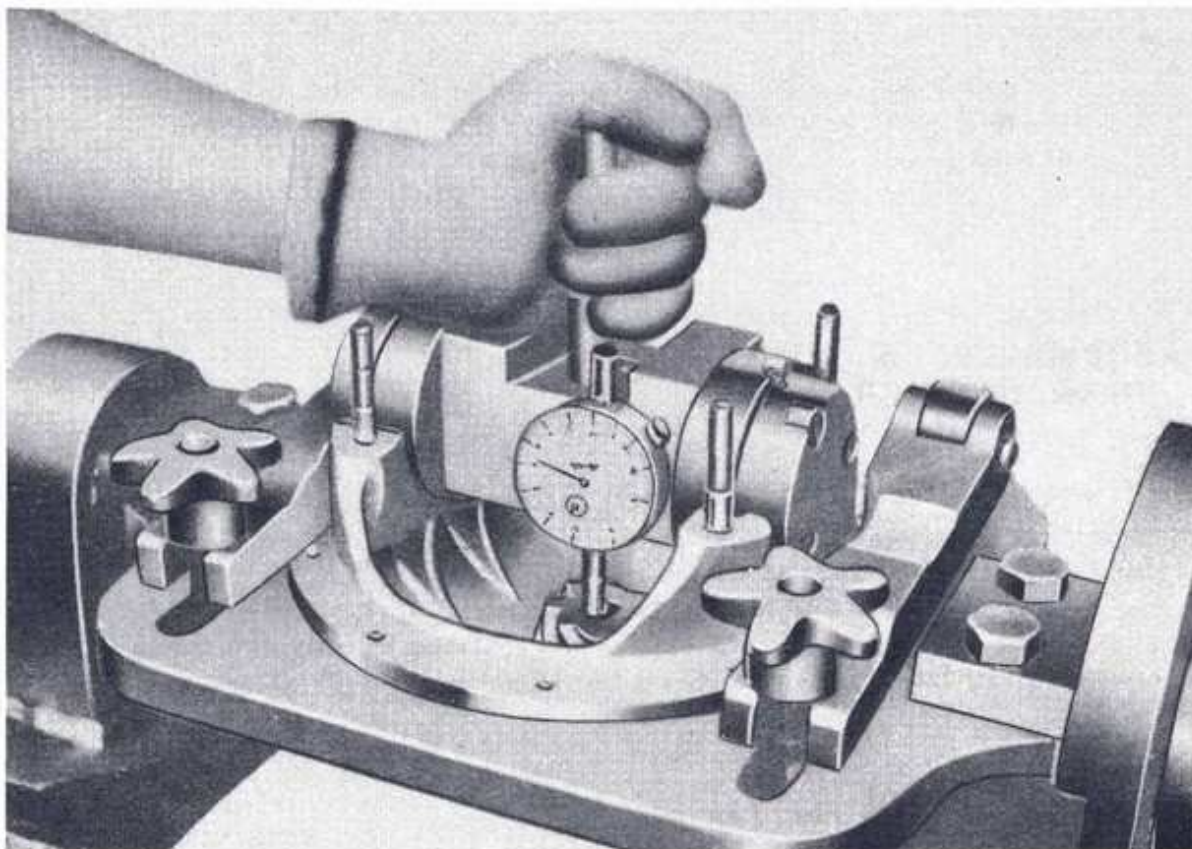

Fig. 9 Adjustment of pinion height
The drive pinion bearing outer race replacer as illustrated in Fig. 9 should be employed in this case. In other upon the stud so as to make the screw at the center of carrier, and set the adapter at the lower frim of the race.
- (13) To pull out the front bearing outer race from the gear carrier, set the tool body (3) as illustrated in Fig. 9 pull it out with adapter (B) in the way of rear race.
The construction and mechanism must well be comprehended referring to Fig. 9 & 11 and the adjustment & repairing exactly according to the condition of practical use based on the adjustment by exact calculation.
- (2) There are few numbers with 0 & + or - besides set number marked by an electric pen on the tip head surface of drive pinion. They show the manufacturing variation in a figure at the unit of 0.001 in. (0.025mm) to decide the thickness of adjusting shim for adjustment of standard position (The standard pinion height is 51.0mm from axle center as shown in Fig. 9 & 11.
There is a marked numeral of adjusting basis on the bearing housing of the gear carrier and differential case. The numeral is the manufacturing variation in a unit of 1/1000 in., against each standard measurement of A.B.C.D. in Fig. 9. To measure the width of the side bearing on left and right, use the standard gauge (20.0mm thickness) and dial gauge on a flat board. In this case, place the load on the bearing with the aid of weight block for about 2.5 kg to acquire the steady figures. Calculate the manufacturing variation on minus side against the each standard measurement of 20.0mm on the unit basis of 1/1000 and assume each of them as E & F. Take the left side bearing, for example. When the measured width is 19.8 m, it is -0.2mm. (-0.008 in.) against the standard measurement and the E is, by excluding the minus sign, 0.008in. The thickness of the shim is acquired by applying the numerals to the following method of computation.